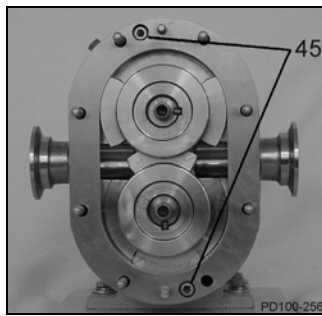

Figure 36 - Location of Cap Screws
- Remove two body retaining cap screws (Figure 36, item 45).